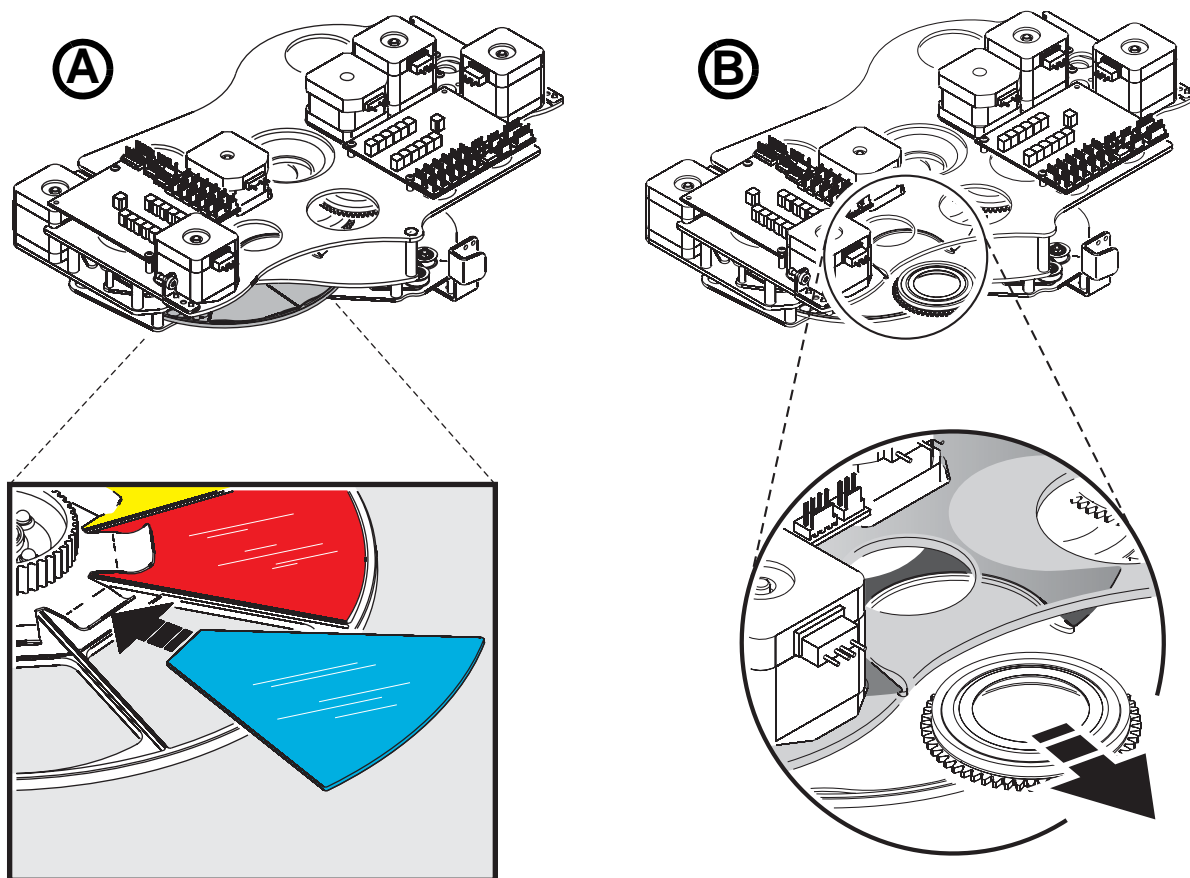

Figure 20: Color filter and gobo replacement
4. See **A** in Figure 20. Rotate the color wheel until the filter you want to change is accessible. Lift the filter away from the color wheel slightly to release it, then grasp it by the edges and remove. If your fingers are too large, protect the glass with a piece of paper that has been folded several times and grasp the filter with needle nose pliers.
2. See **B** in Figure 20 on page 32. Rotate the relevant gobo wheel until the gobo you want to replace is accessible.
8. Check that the goboholder is the right way up (see Figure 20), then work the rim of the gobo holder under both clips and snap the gobo holder back into position on the gobo wheel. If necessary, a small screwdriver or similar tool may be used to pry the clips away from the wheel.